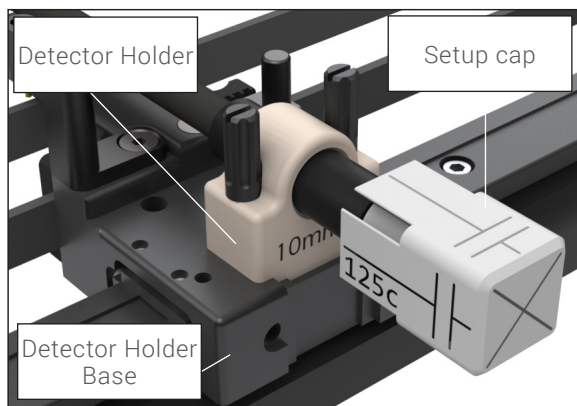

Fig. 3a: Field Detector Holder with alignment cap
- a. Install the Field Detector holder on the detector holder base and Field Detector in holder, as illustrated in Fig. 3a and 3b.